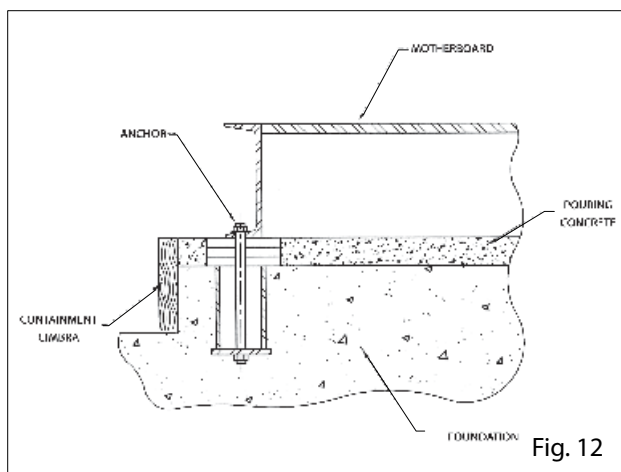

Fig. 12
- 1.- Build a dam with particular area and height for concrete pouring (see Figure 12).